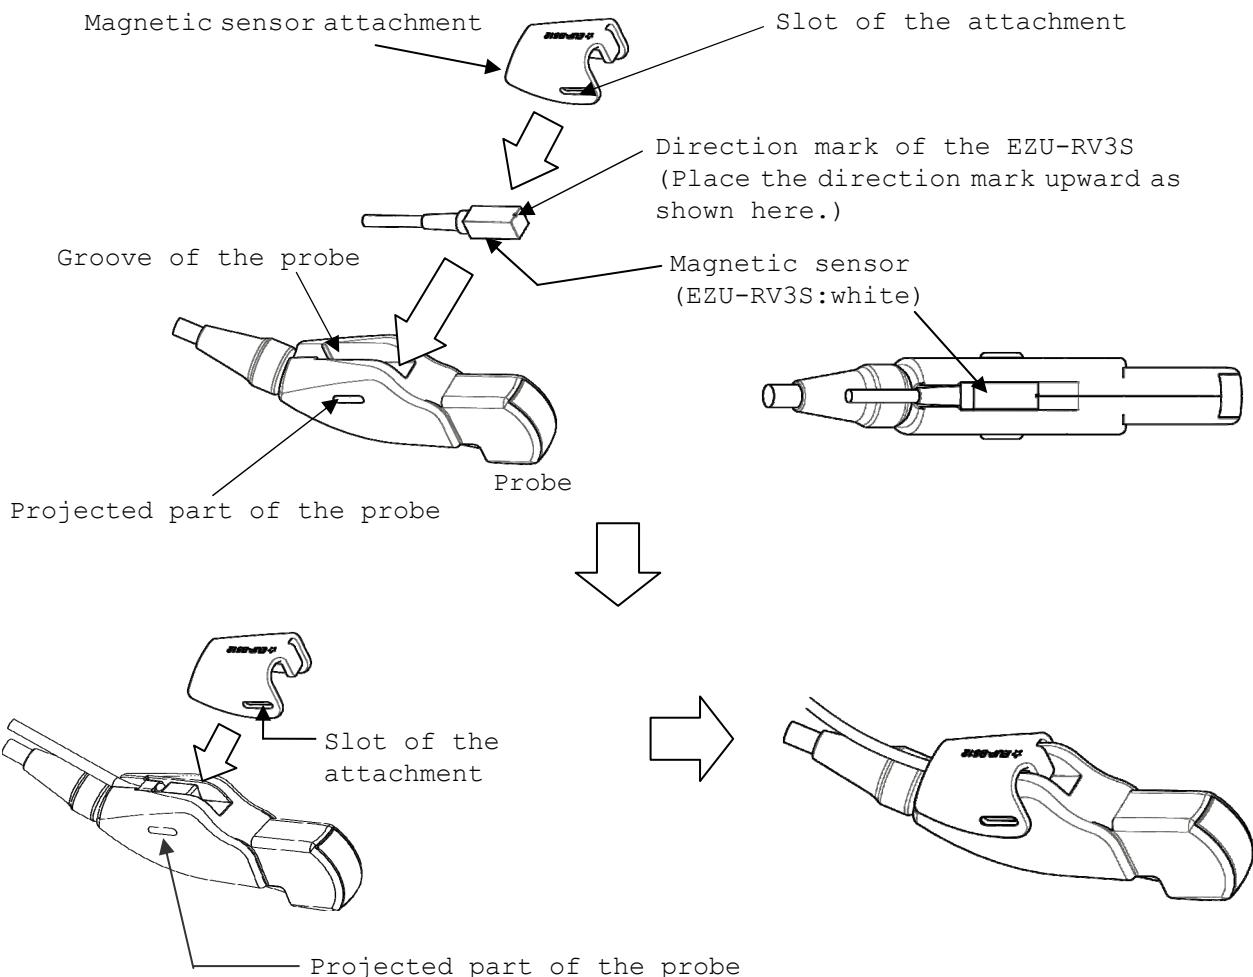

Fig.8 How to attach the Magnetic sensor attachment
- Attach the Magnetic sensor into the probe with the correct direction as shown in Fig 8.